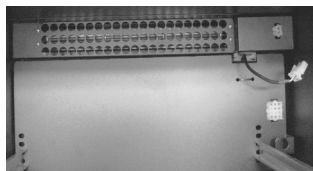

Figure 10 – Upper blower fan
5. Install upper blower fan and plug into existing harness(Fig. 10)
5. Unplug harness and remove upper zone blower fan (Fig. 10)